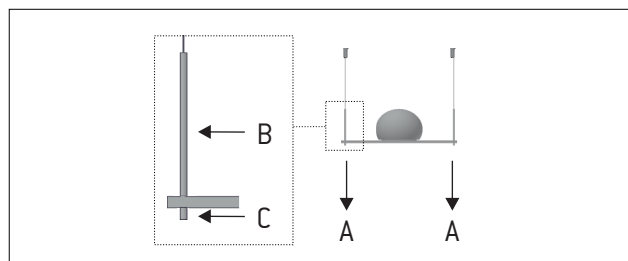

Figure 2
2 - Find the stems (A) located at both ends of the lamp. Each one is formed by the pieces (B and C) that will be used in step 3. Figure 2.